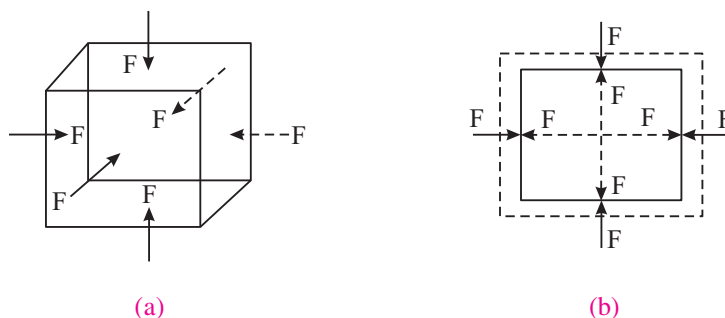

Fig. 8.4 : Normal stress
- (ii) **Normal Stress** : If the deforming forces are applied uniformly and normally all over the surface of the body so that the change in its volume occurs without change in shape (Fig. 8.4), we call the stress produced as normal stress. You may produce normal stress by applying force uniformly over the entire surface of the body. Deforming force per unit area normal to the surface is called pressure while restoring force developed inside the body per unit area normal to the surface is known as **stress**.